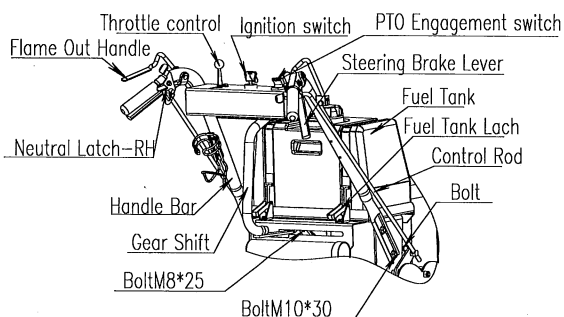

FIG 5/FIG 6
- Attach the handle with four Hex Hd Bolts, Nylon Insert Locknuts on each side as show in FIG5
- Route the Throttle Cable through the Transmission Cover and attach to engine as show in FIG5 and in the Engine Operator Manual.
- Put the fuel tank into the position and lock it as show as in FIG 5